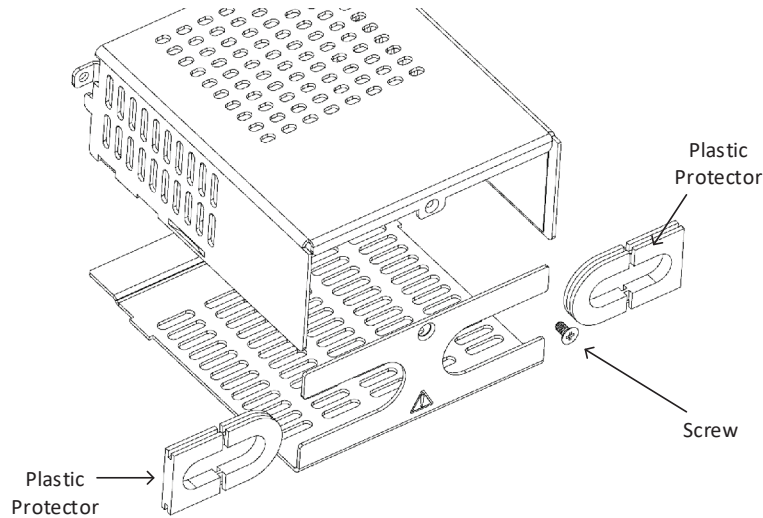

Figure 4-48: Disassembly of Output Protection (1kW Up to 5kW Full Width)
- 6. Open the output protection assembly (supplied in the accessories kit) by unscrewing the screw in the rear side as shown in Figure 4-48. Remove both plastic protectors.